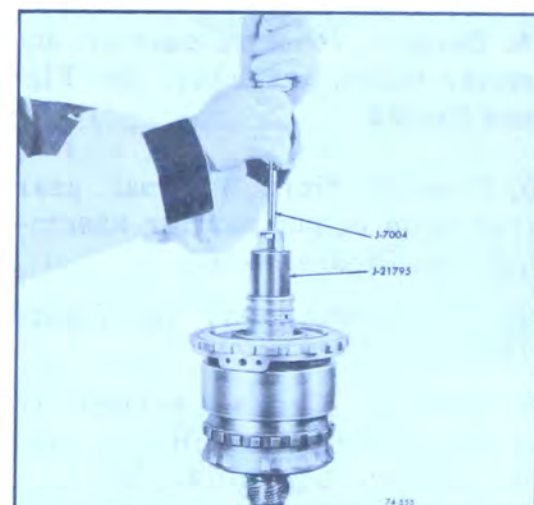

Figure 74-555
18. Place gear unit assembly with output shaft facing down in hole in work bench. See Figure 74-555.